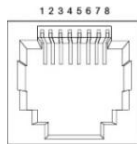

Figure 4
- Insert the top of the DIN-Rail on to the track as shown below in *Figure 4*.